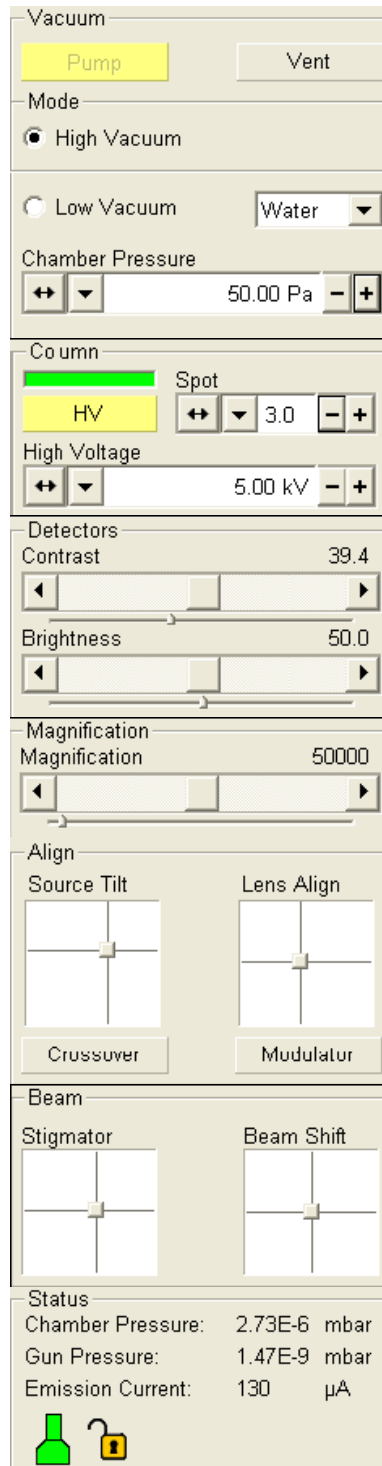

Figure 1 – Beam Control page
- 1.2 If the electron beam is on, click on the **HV** button (refer to figure 1 – Beam Control page) to switch off the beam.
- 1.4 Click on the **Vent** button (refer to figure 1) to vent the chamber.
- 1.8 Click on the **Pump** button (refer to figure 1) to pump down the chamber. Hold the top of the door during the first few seconds of pumping. The colour of the chamber will change to green once the chamber pressure is below 2.00E-4 mbar.
- 2.7 Click on the **HV** button (refer to figure 1) to ramp up the high voltage.